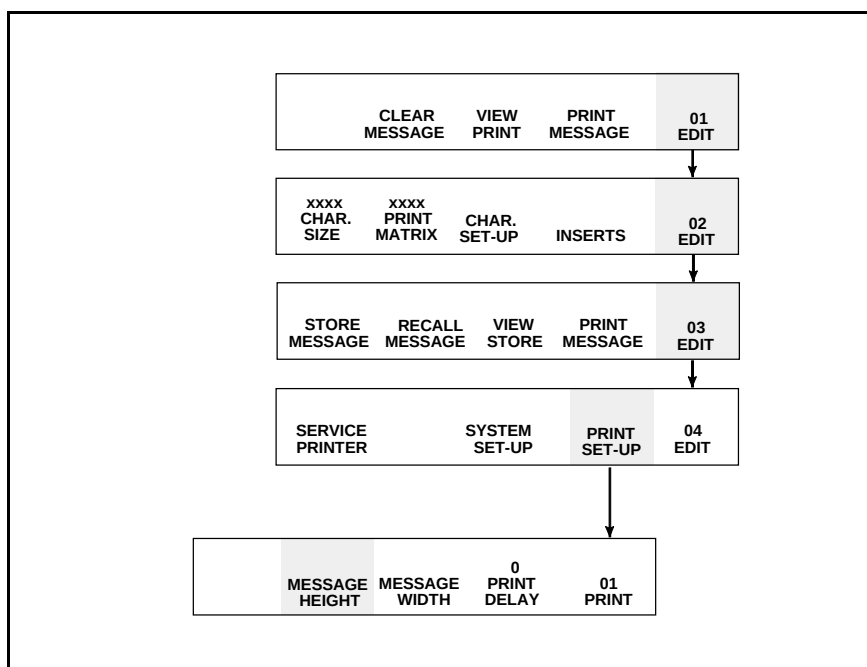

Figure 6-17. Assessing Frame <01 PRINT>
This procedure explains how to adjust the height of a message. The message height is adjusted in Frame <01 PRINT>. Refer to Figure 6-17.
1. Begin in Frame <01 PRINT>. Refer to Figure 6-17.